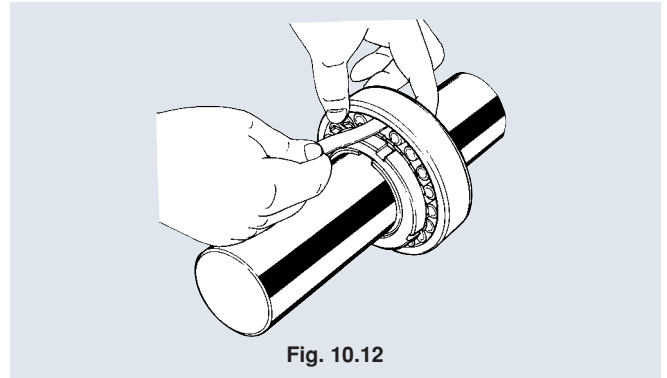

Fig. 10.12
- (3) Fit the bearing over the adapter sleeve on the shaft as tight as possible, so that the bearing inner ring is fully seated onto the taper on adapter sleeve.
- (4) Lightly tighten the nut until the sleeve is seated on the shaft.
- (5) When fully tightening a self-aligning ball bearing, make sure that its radial clearance becomes approximately 1/2 that before fitting. For a spherical roller bearing, tighten the nut while measuring its radial clearance with a thickness gage so that the reduction of radial internal clearance value in **Table 10.1** is reached. Make sure that an installed self-aligning ball bearing can turn smoothly by hand (see **Figs. 10.12 and 10.13**).